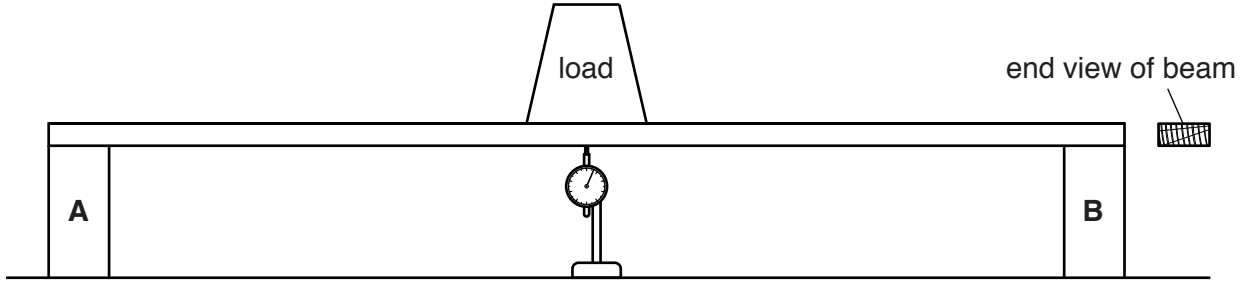

Fig. 1
- 1 Fig. 1 shows a wooden beam supported at **A** and **B** with a test instrument in position.